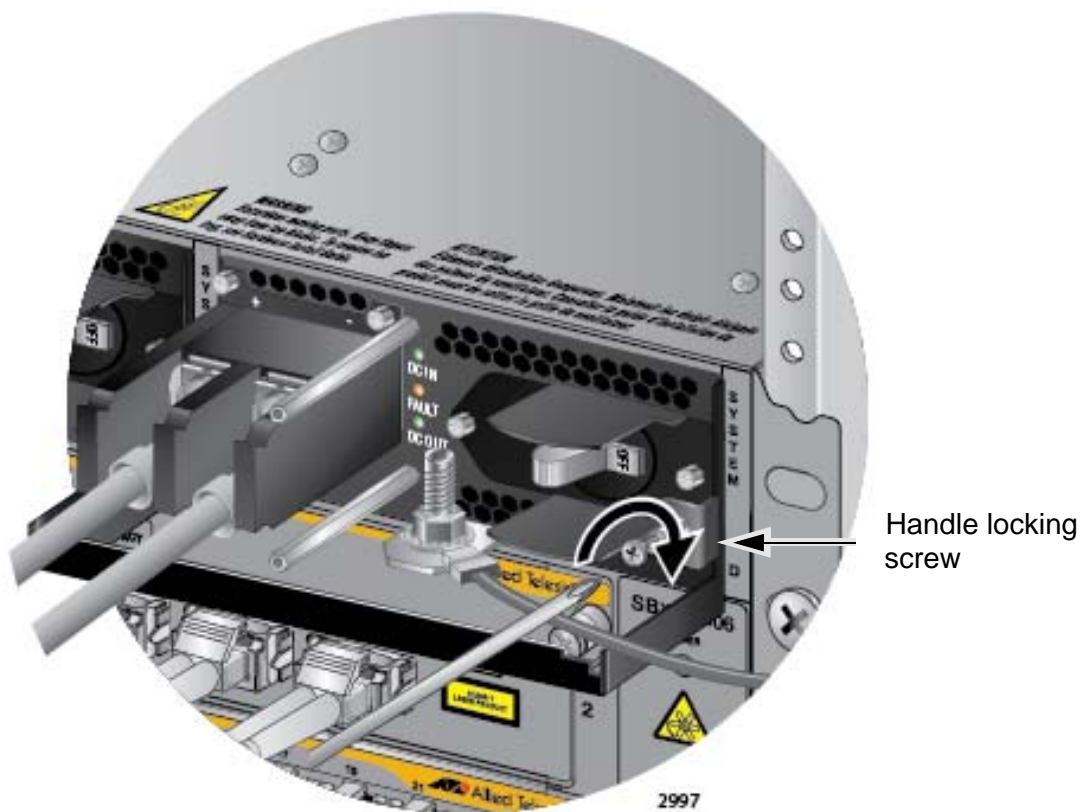

Figure 147. Tightening the Handle Locking Screw
8. With a #2 Phillips-head screwdriver, tighten the handle locking screw to secure the power supply to the chassis. See Figure 147 on page 222.